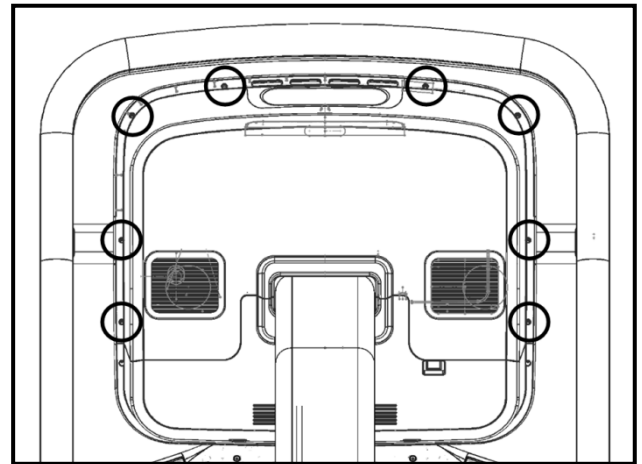

Fig. 21
20. Mate the back shroud of the display with the rest of the assembly by installing eight Phillips head screws at the corresponding circled locations (Fig. 21).